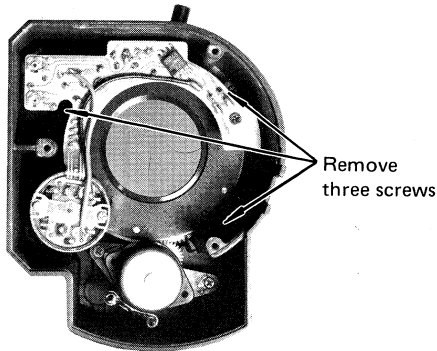

Fig. 3-5-5
- Remove three screws which hold the ALC assembly and remove the ALC assembly. (Fig. 3-5-5)